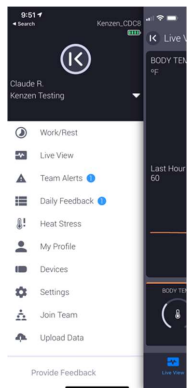

Figure 24: Team Alerts
1. Go to the Main Menu and select **Team Alerts** (Figure 24).